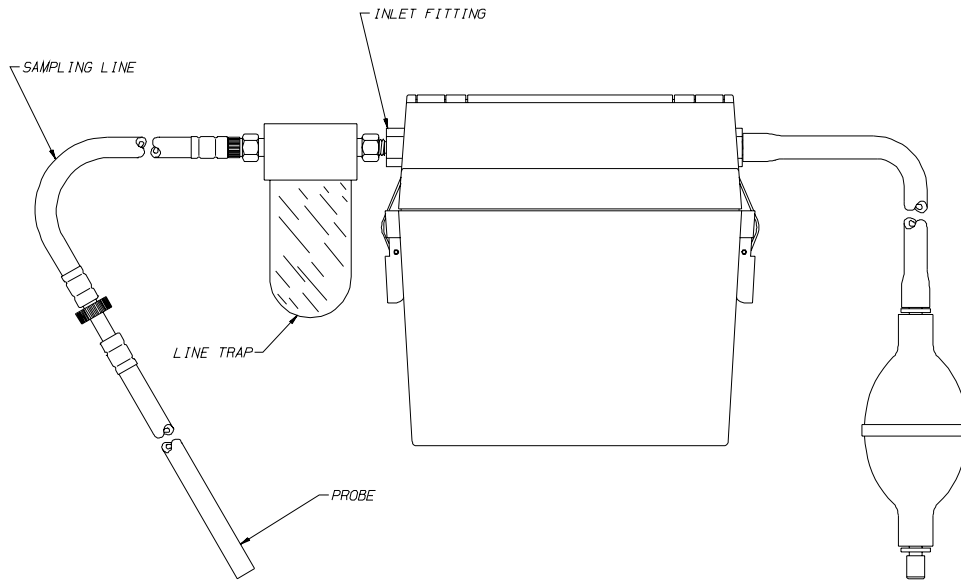

Figure 2-2. Sampling Probe Connection
2. Connect the coupling on the other end of the line to the instrument inlet fitting (FIGURE 2-2).
sampling line, the user can examine barholes, manholes and sewers that are obstructed or accessible only through narrow openings (FIGURE 2-2).
NOTE: Refer to instructions supplied with the line trap (FIGURE 2-2).